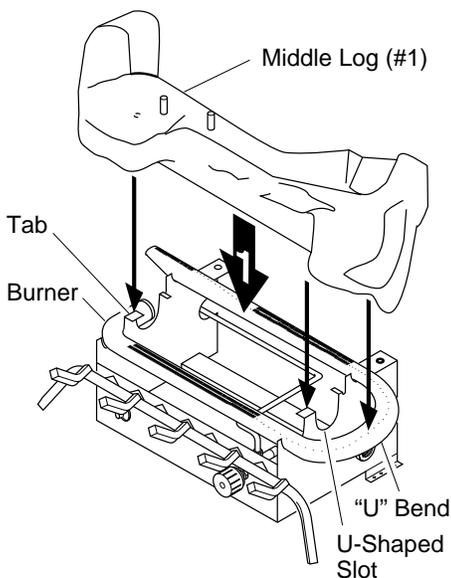

Figure 21 - Installing Middle Log (#1)
1. Place the base of the middle log (#1) in the U-shaped slots of the grate base. The cutout on the right of the middle log should sit over the burner (see Figure 21). Make sure the front of the middle log is resting on the tabs of the grate base and the cutout area is centered over the burner "U" bend.